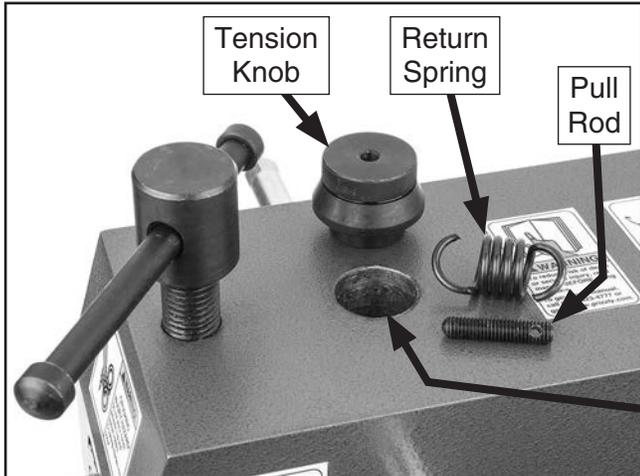

Figure 44. Return spring components removed.
- Remove return spring with pull rod from upper mandrel shaft inside headstock, then remove pull rod from spring (see **Figures 44–45**).